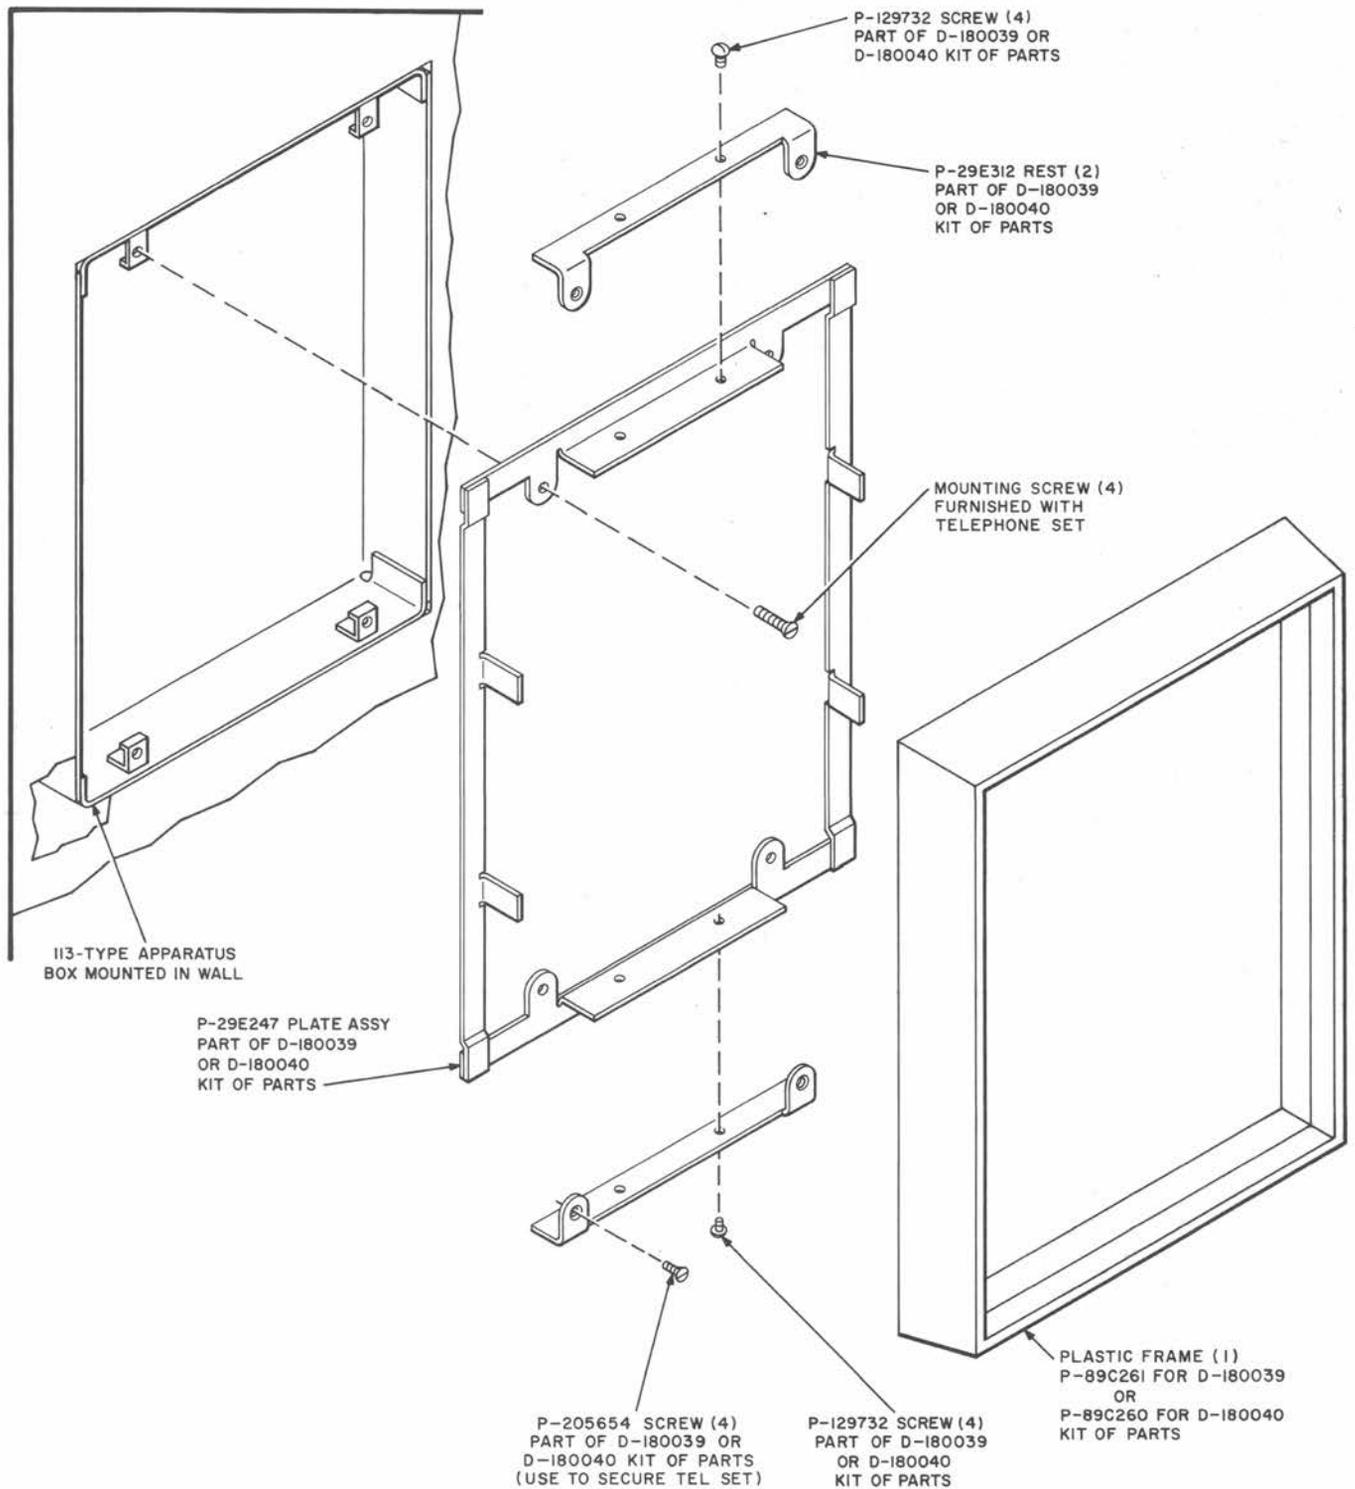

Fig. 4—D-180039 or D-180040 Kit of Parts
A D-180039 (light gray frame) or D-180040 (light beige frame) Kit of Parts, ordered separately, is required when these sets are to be installed in a 113-type apparatus box (Fig. 4).
(1) Dress inside wiring cable conductors through appropriate slots in the 75A connecting block (ordered separately).
(2) Secure connecting block to upper right hand mounting brackets of apparatus box.
(3) Terminate inside wire and D50AA-3 mounting cord conductors in standard color code sequence. Dress slack mounting cord to right side and back of apparatus box (or in applique if provided).
(4) Using the four mounting screws supplied with the telephone set, secure the P-29E247 plate assembly from the D-180039 or D-180040 Kit of Parts to the set mounting brackets of the apparatus box (Fig. 4 and 5).